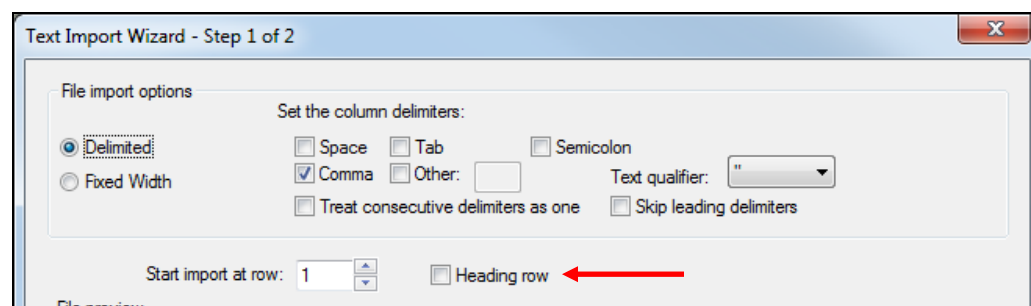

Figure 3 The top of the Text Import Wizard dialog
5. Select “recharge.csv” and click **Open** to exit the *Open* dialog and bring up the *Step 1 of 2* page of the *Text Import Wizard* dialog (top shown in Figure 3).
This Wizard is used to import text data into a GMS project. Note that if the text file being imported has a heading row, the *Heading row* box must be checked for the data to be properly imported (red arrow in Figure 3). In this example, there is not a heading row, so the box should not be checked here.